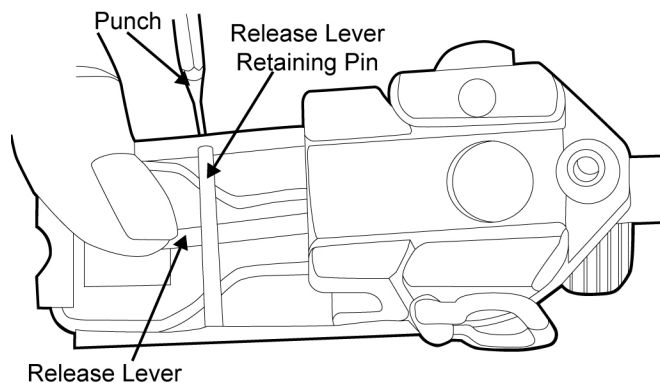

Figure 37. Depressing the Release Lever and Removing the Release Lever Retaining Pin.
- a. Depress the release lever to relieve spring tension on the release lever retaining pin. Using a punch, push the release lever retaining pin out from one side of the mounting plate. Refer to Figure 37.